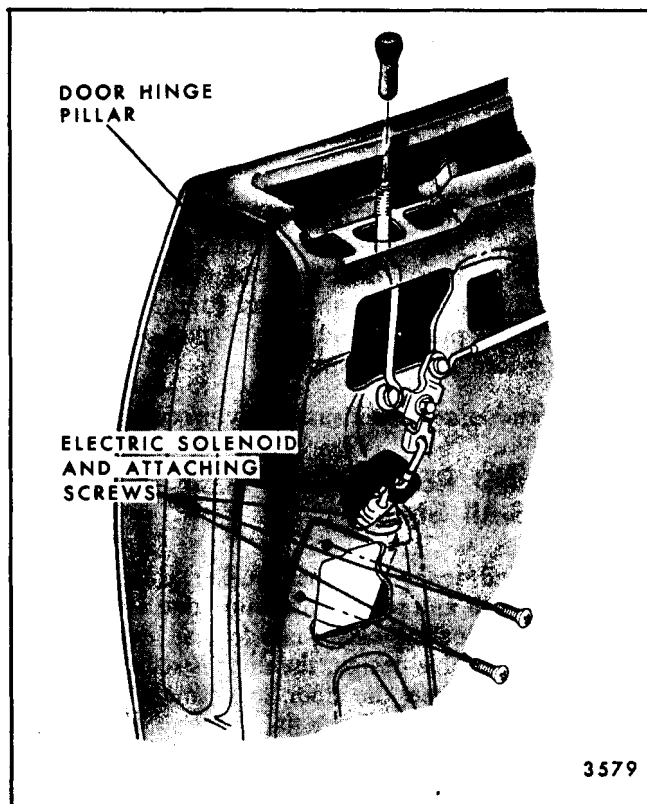

Fig. 6-25-Rear Door Lock Electric Solenoid Installation
4. On rear doors, remove electric solenoid to door inner panel attaching screws and connecting rod to door inside locking rod connecting link attaching clip. Remove through access hole (Fig. 6-25).